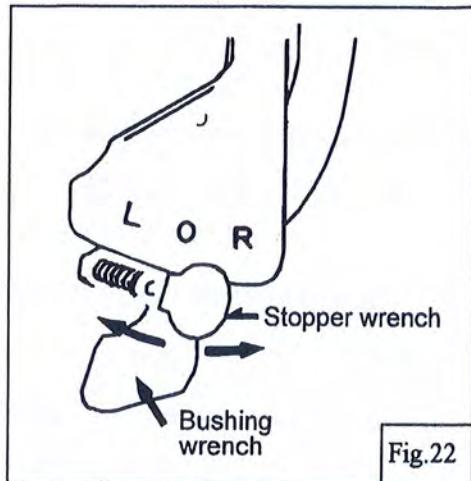

Fig.22
20) Safety clutch device (Fig.21, Fig.22) :